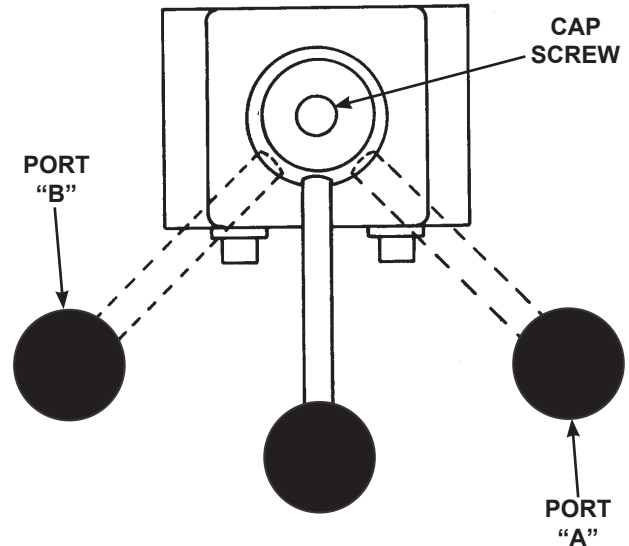

FIGURE 1
- Move the valve handle to any position by loosening the cap screw and rotating the stem in increments of $22\ 1/2^\circ$ to the position desired. Torque the cap screw 60/80 in. lbs. See Figure 1.